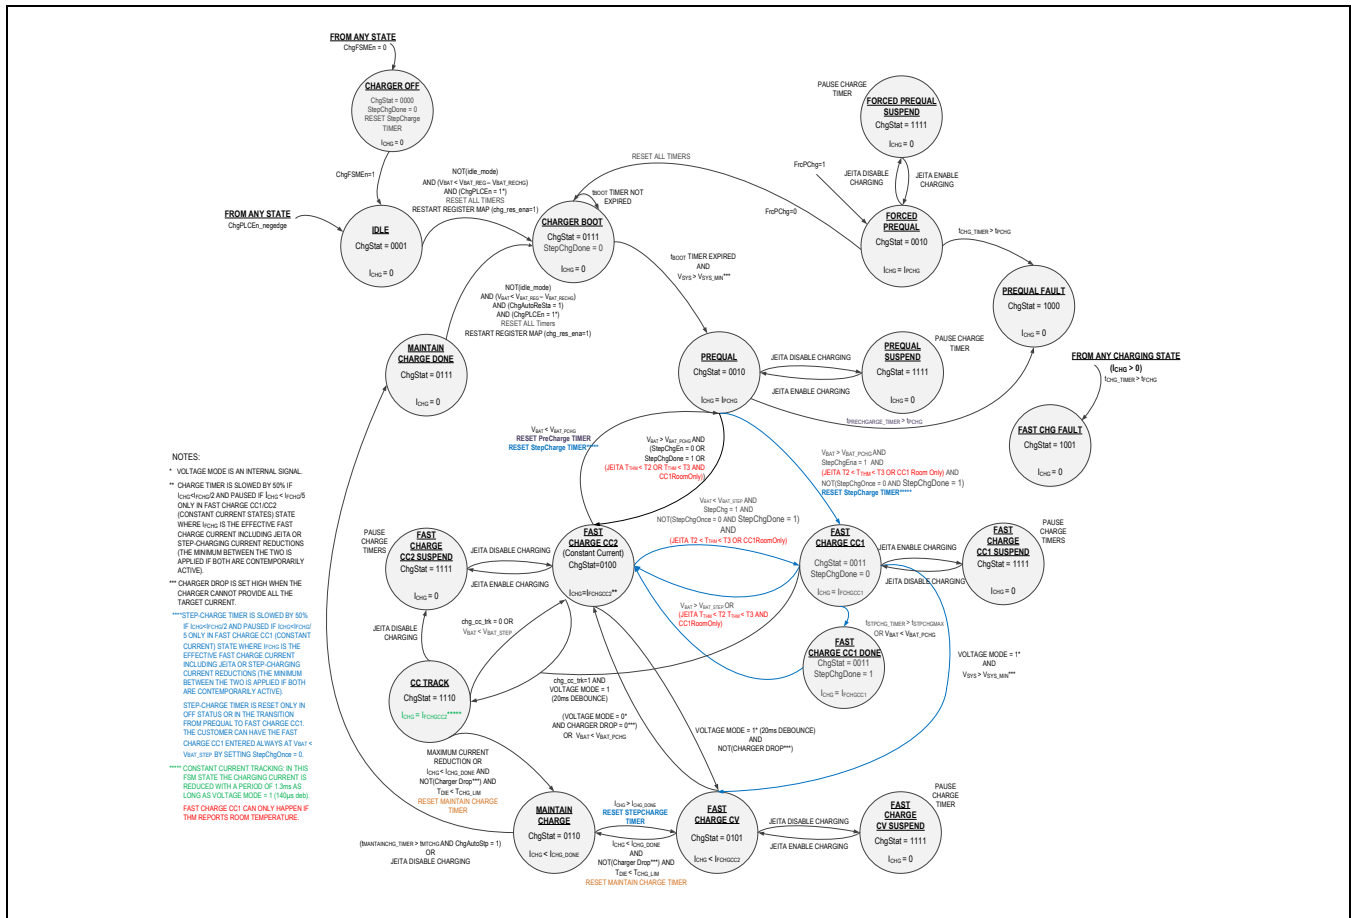

Figure 14. Battery Charger FSM Diagram
There are also independently programmable temperature thresholds, which allow the user to select in which temperature ranges precharge, CC1, CC2 and battery regulation voltage may operate. Different JEITA compliant temperature operation strategy is I²C programmable. Timeout function for precharge, CC1 and full charge cycle is also designed to prevent overcharge of the battery. Detailed charger operation is shown in Figure 14.
As shown in Figure 14, when PLC connection is not established, power is not applied from the MAX20355. The MAX20357 charger is in **Charger Off** state (ChgStat = 0b0000). After MAX20357 detects PLC connection, buck-boost voltage is applied to PLC pin, chn_con_sts status is set to 1 and chn_con_int interrupt is asserted at the first telemetry PING, signaling PLC connection is established. Charger transitions from **Charger Off** state to **Charger IDLE** state (ChgStat = 0b0001).
As shown in Figure 14, the following events cause the charger to enter **Charger IDLE** state.
As shown in Figure 14, the charger enters the precharge state (`ChgStat = 0b0010`) after charger boot sequence is completed and SYS pin voltage is regulated higher than or equal to minimum system voltage `SysMin`. If battery voltage is lower than `VPChg` or `FrcPChg = 1`, the charger remains in precharge state. In the precharge state, the battery charging current is `IPChg`.
As shown in Figure 14, if CC track is disabled, charger enters **Fast-Charge Constant Voltage (CV)** state when the battery voltage is close to top-off voltage BatReg. In the **CV** state, the charger regulates the battery voltage at BatReg and the charge current decreases from CC2IFChg as the battery voltage increases. Battery regulation voltage can be less than BatReg due to temperature. See the JEITA Compliance section for JEITA reduction of battery regulation voltage.
If the charger drop-out voltage drops down to the programmable threshold PLC_DROP, charger current is actively reduced to maintain the charger input and output voltage difference $V_{PLC} - V_{BAT}$ at PLC_DROP. As shown in Figure 14, when charger current is being actively reduced, some charger state transitions are unavailable.